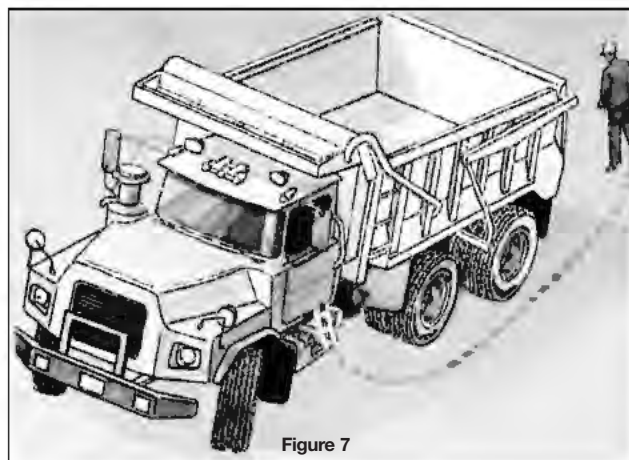

Figure 7
- Understand the effect of blind spots (Figure 7).
- When no spotter is present, get out and quickly walk around your vehicle. If the way is clear, back up at once (Figure 7).